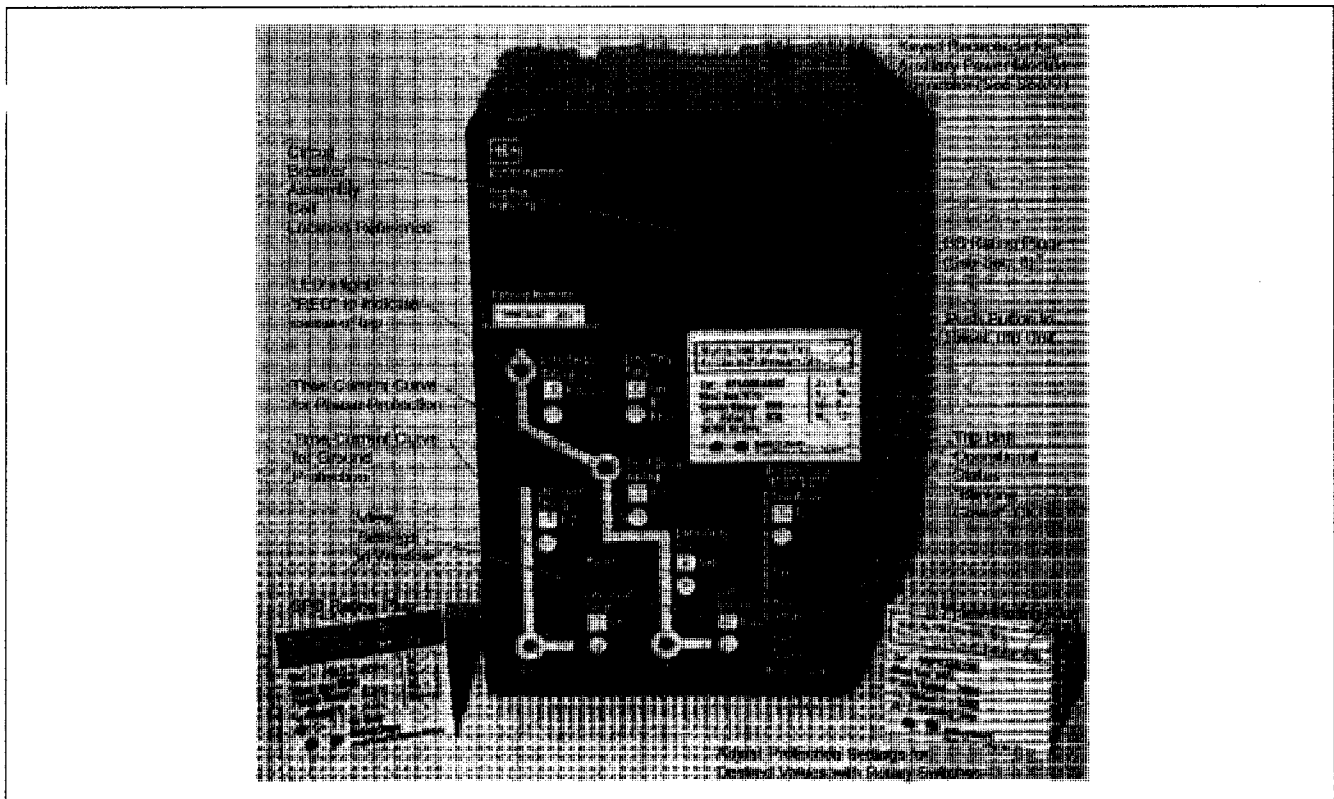
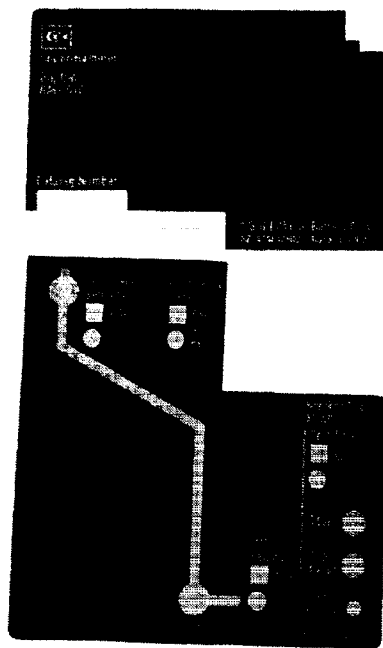
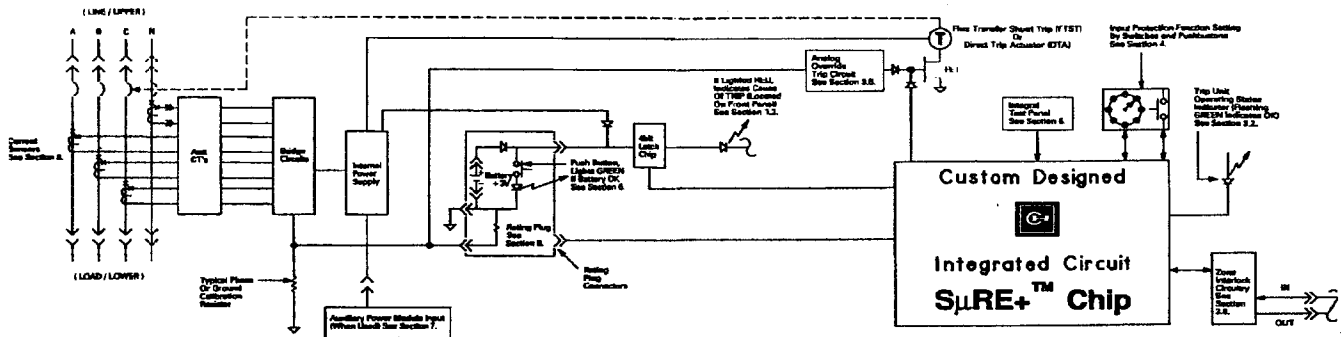
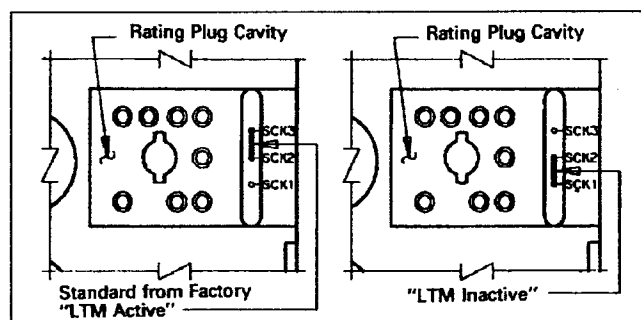

Fig. 1 Digitrip RMS 510 Trip Unit Model LSIG with Rating Plug
Fig. 2.1 Long Time/Instantaneous Protection (LI)
Fig. 3 Digitrip RMS 510 Block Diagram with Breaker Interface
Fig. 4.2.1 Long Time Memory "LTM" Jumper
The Digitrip RMS 510, illustrated in Fig. 1, is a custom application specific integrated circuit based trip unit suitable for use in types DS and DSL low voltage AC power circuit breakers and type SPB Systems Pow-R circuit breakers and Series C® R-Frame molded case circuit breakers.
The Digitrip RMS 510 Trip Unit is available in six different types. Each trip unit may be equipped with a maximum of five phase and two ground (time-current) adjustments to meet specific application requirements. The types of protection available for each model include the following, which are illustrated in Figures 2.1 through 2.6:
The Digitrip RMS 510 Trip unit provides three basic functions: Protection, Information and Testing. A typical trip unit and rating plug are illustrated in Fig. 1. Individual product instruction leaflets referenced in Section 9.0 illustrate typical Digitrip RMS Trip Units installed in specific breakers.
The trip unit employs the Cutler-Hammer Inc. custom designed integrated circuit SµRE + chip, which includes a microcomputer to perform its numeric and logic functions. The principle of operation is described by the block diagram shown in Fig. 3.
The LEDs, shown in Figs. 1 and 2.1-2.6, on the face of the trip unit, light "RED" to indicate the reason for any automatic trip operation. As indicated in Figs. 2.1-2.6, each LED is strategically located in the related segment of the time-current curve depicted on the face of the trip unit. The reason for trip is identified by the segment of the time-current curve where the LED is lighted "RED". Following an automatic trip operation, the back-up battery, continues to supply power to the LEDs as indicated in Figs. 3 and 6. To check the status of the battery, see Section 6.
Push the "Trip Reset" button shown in Fig. 1, to turn "Off" the LEDs following a trip operation.
A green colored LED, as shown in Fig. 1, indicates the operational status of the trip unit. Once the load current through the circuit breaker exceeds approximately 10% of the frame/current sensor rating, the green LED will flash "On" and "Off" once each second, to indicate the trip unit is energized and operating properly.
Zone Selective Interlocking (or Zone Interlocking) is available (see Fig. 3) for Digitrip RMS Trip Units having Short Delay and/or Ground Fault protection. Zone Selective Interlocking provides the fastest possible tripping for faults within the breaker's zone of protection, and yet also provides positive coordination among all breakers in the system (mains, ties, feeders and downstream breakers) to limit the outage to the affected part of the system only. When Zone Interlocking is enabled, a fault within the breaker's zone of protection will cause the RMS DIG-ITRIP trip unit to:
Prior to placing circuit breaker in operation, each trip unit protection setting must be set to the values specified by the engineer responsible for the installation. The number of settings that must be made is determined by the protector model supplied as illustrated in Figs. 2.1 through 2.6. Each setting is made with a rotary switch, using a small screwdriver. The selected setting for each adjustment appears in its respective rectangular viewing window as illustrated in Fig. 1.
In certain applications it may be desirable to disable the LTM function. The LTM function can be disabled by (first opening the breaker and then) removing the Rating Plug (See Figures 1 and 6), and lastly moving the LTM jumper (inside the rating plug cavity, See figure 4.2.1) to its "INACTIVE" connection. (You can enable the LTM function again any time you wish by moving the LTM jumper back to its original "ACTIVE" connection.)
- 2) There is a condition under which the Long Delay Trip LED can erroneously indicate a LDT has occurred, even though the breaker is still closed. This can happen when an overload current momentarily exceeds the Long Delay Current Setting,  $I_r$ , so that the Long Delay LED flashes "RED" to indicate the overload condition. Then if, at the very moment when the LED is "ON", the load current would then suddenly drop to a value less than 10% of the breaker frame (or current sensor) rating, the trip unit stops functioning while the "4bit Latch Chip" (See Fig. 3) is set and the LED remains Lighted. If the current would again increase to a value above the Long Delay Current Setting,  $I_r$ , and then return to normal, the
LDT will reset itself. You can of course, manually clear the LDT (or any other trip indication) at any time, by pushing the "PUSH to RESET" button. (See Figure 1.)